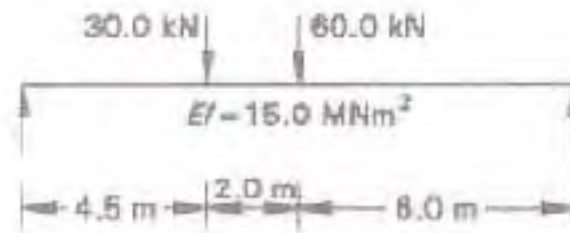

Figure 6
6. Compute the maximum deflections and support rotations in the beams of the following figure 6 using